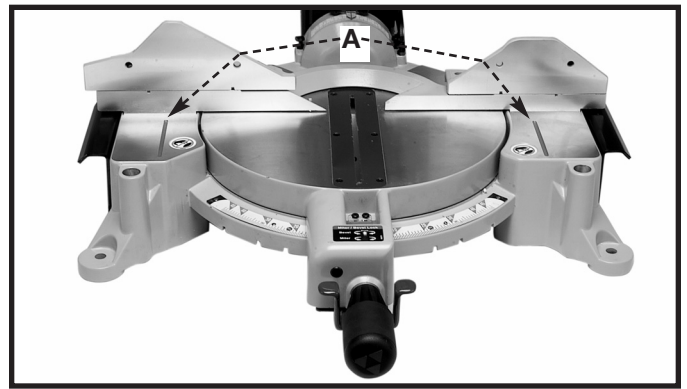

Fig. 9
⚠ WARNING The area inside the two red lines (A) Fig. 9 on the table is designated as a “Hazard Zone”. NEVER place your hands inside this area while the machine is running.